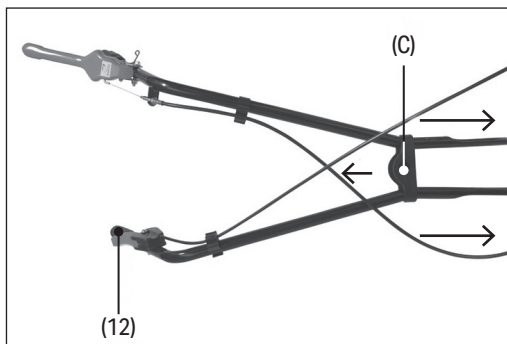

Fig. 2
2. Attach the handlebars (Fig. 2):
- a. With the handle grips (12) angled downwards, slide the ends of the handlebars through the top of the handlebar bracket (C) so that they form a "Y" shape.